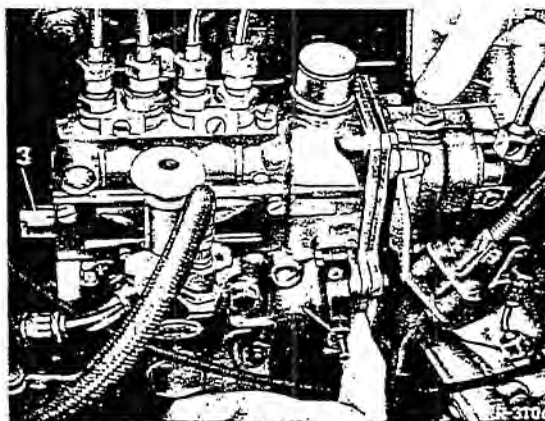

Fig. 07-26/1
2. Detach starter and stop cable from control lever (2) of injection pump. Take off protector sleeve (3) above control rod. Unscrew vacuum line from vacuum union (1). Press control rod with control lever (2) hard over to STOP and close vacuum union (1) with one finger. Then release control lever and watch control rod (see Fig. 07-26/1).